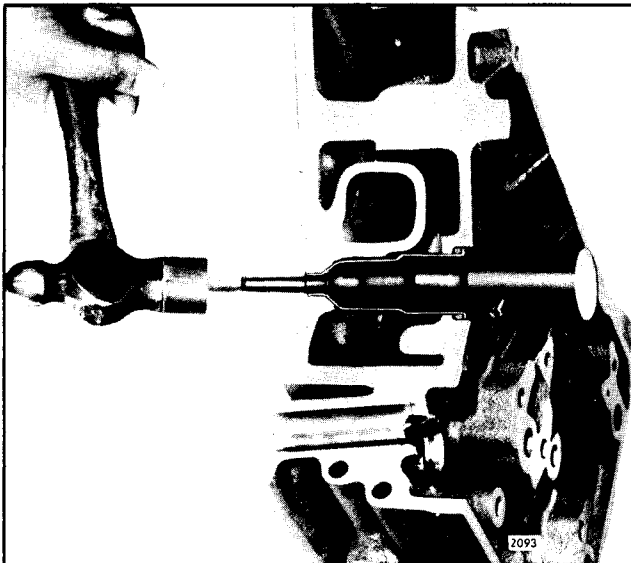

Fig. 1 - Removing Injector Tube using Tools J 5286-4A and J 5286-5
The bore in the cylinder head for the fuel injector is directly through the cylinder head water jacket as shown in Fig. 1. To prevent coolant from contacting the injector and still maintain maximum cooling of the injector, a tube is pressed into the injector bore. This tube is sealed at the top with a neoprene ring (former) or fluorelastomer (current) and upset into a flare on the lower side of the cylinder head to create water-tight and gas-tight joints at the top and bottom.
2. Place the injector tube installer J 5286-4A in the injector tube. Insert the pilot J 5286-5 through the small opening of the injector tube and thread the pilot into the tapped hole in the end of the installer (Fig. 1).